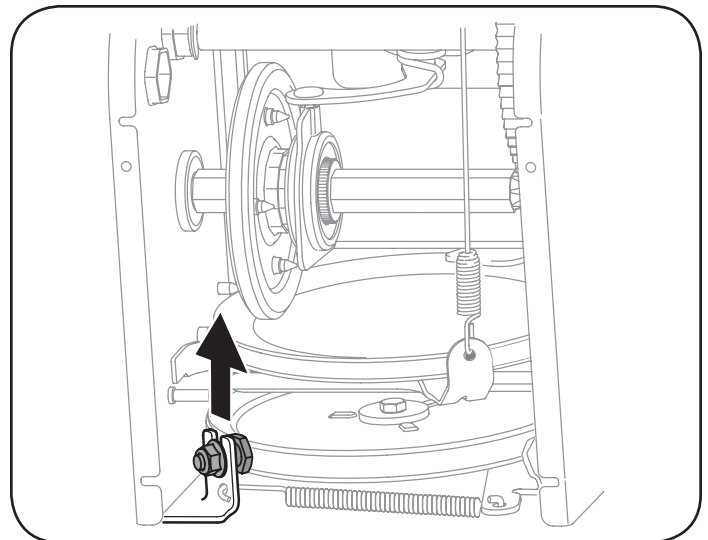
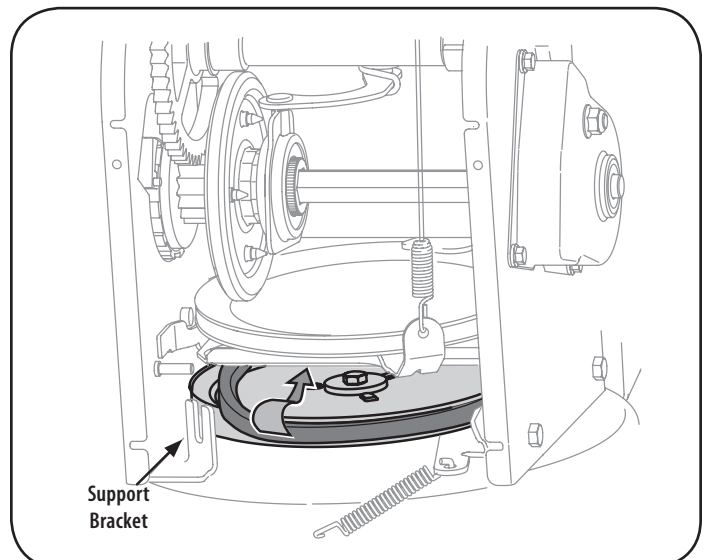

Figure 33
Figure 34
6. Loosen and remove the shoulder screw which acts as a belt keeper. Refer to Figure 33.
7. Remove the belt from around the auger pulley, and slip the belt between the support bracket and the auger pulley. See Figure 34.
NOTE: Do NOT forget to reinstall the shoulder screw and reconnect the spring to the frame after installing a replacement auger belt. See Figure 33 and Figure 34.